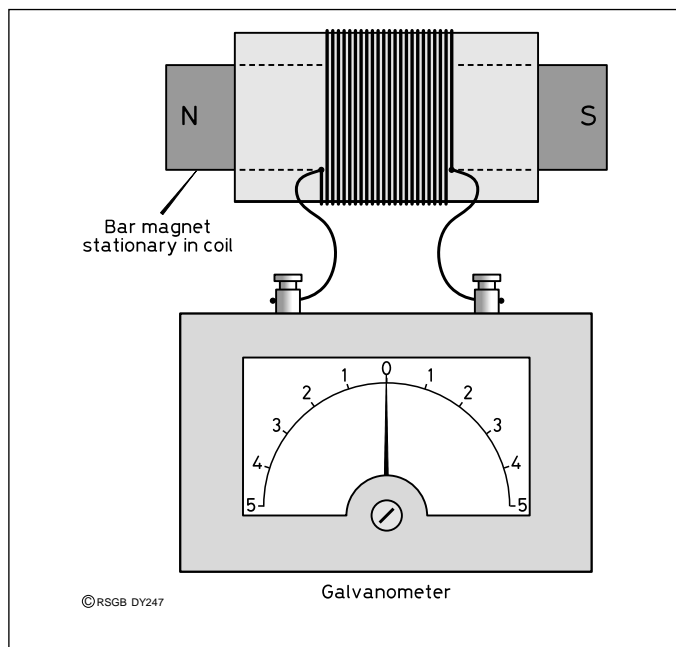

**Fig 3: Layout of transformer windings.**
**primary**) the current flowing through it will generate a magnetic field but the field will be stationary and therefore will have no effect on the other coil (the **secondary**) but if a 50Hz AC supply is connected instead of the DC, the magnetic field produced by the primary will vary continuously and an AC voltage will be generated in the secondary. **Fig 3**.